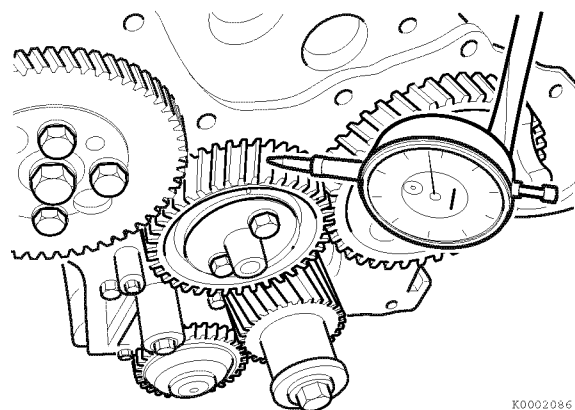

Figure 6-44
1. Install a dial indicator as shown in **Figure 6-44**.